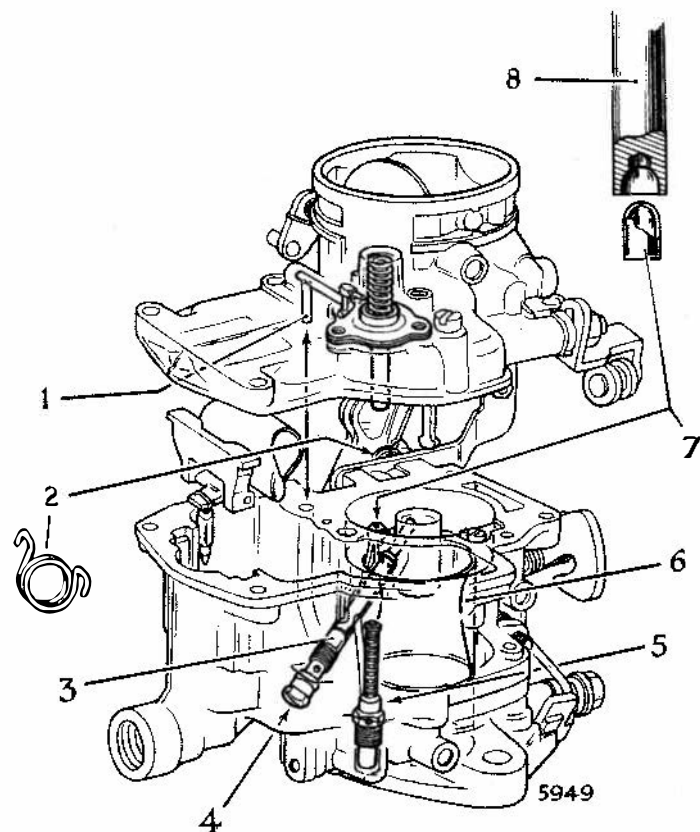

Fig. 4. Ghost view of carburettor passageways and jet positions.
Carburettors (See Fig. 4)
When fitting the replacement high speed bleed (2) a suitably recessed punch (8) must be used as shown in the illustration, Fig. 4.